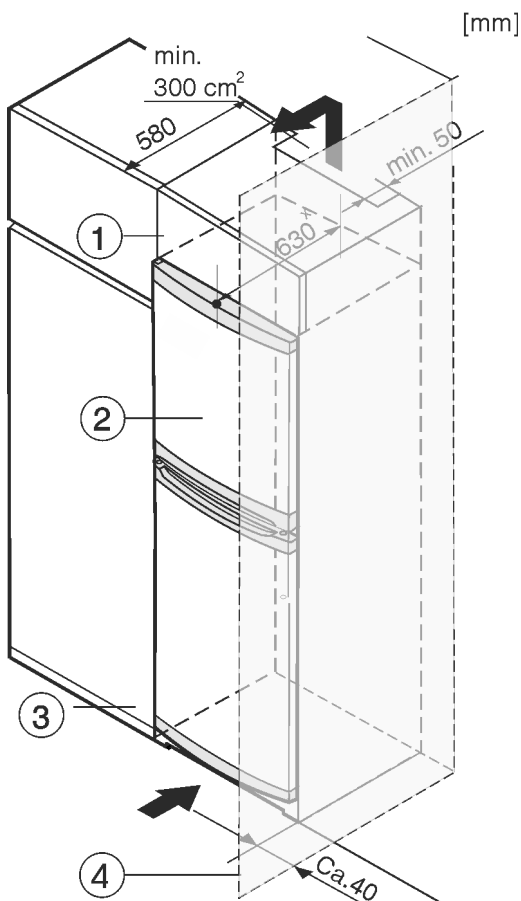

Fig. 8
The appliance can be built into kitchen units. A top cupboard Fig. 8 (2) can be added above the appliance in order to bring the appliance Fig. 8 (1) up to the height of the fitted kitchen units.
When fitting kitchen cupboards around the appliance (max. depth 580 mm), you can install the appliance directly next to the kitchen cupboard Fig. 8 (3). The appliance protrudes 34 mm \* to the side and 50 mm \* in the centre of the appliance in relation to the kitchen cupboard front.
If the appliance is set up with the hinges next to a wall Fig. 8 (4), the distance between the appliance and the wall must be at least 40 mm. This is how far the handle protrudes when the door is open.